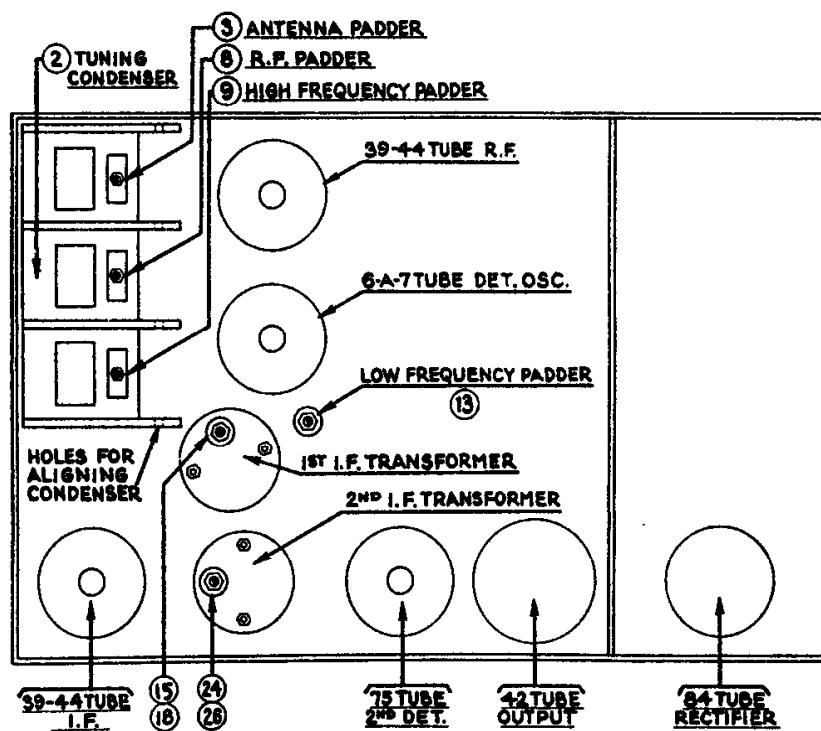

Fig. 43. Model 10 — I.F. 260 K.C.
Remove the speaker lid from the Receiver and disconnect the antenna lead from the Receiver. Remove the grid cap from the 6A7 tube (for location see Fig. 43).
Set up the signal generator or and adjust it to exact 260 K. C. Connect signal generator lead to the grid cap of the 6A7 tube. (See Fig. 43). The output meter must be connected by means of an adapter to the spring of the speaker and to the chassis.
The condensers 24 and 26 are adjusted first (Fig. 43). Turn the adjusting screws all the way in. A metal screw driver can be used for this. Then, with the generator attenuator set so there
**H. F.** There are four holes in line, one in each of the sections of the tuning condenser housing. (See Fig 43) Place a nail of the size that fits snugly through the holes and then turn the condenser plates out of mesh until they strike against the nail.